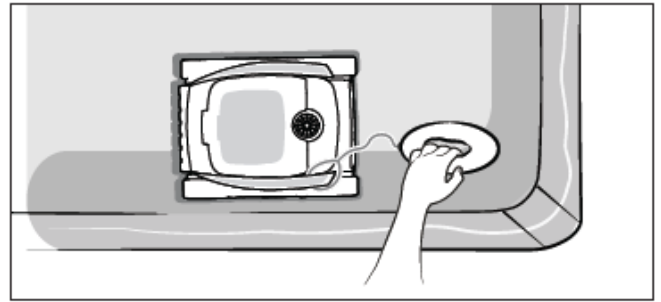

Figure 9. Grab the Floating Leash
1. Grab the floating ring and pull cleaner toward the surface. (FIGURE 9)